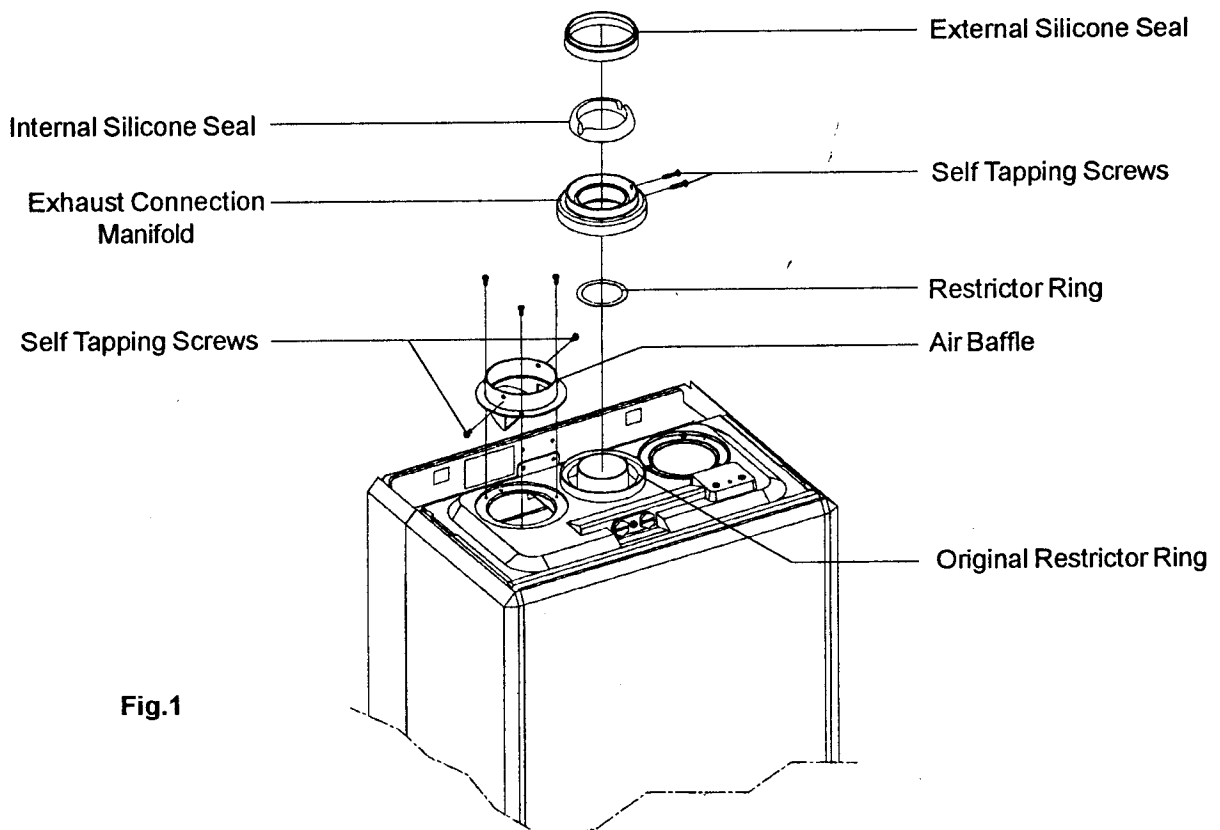

Fig.1
Kit contains: (fig. 1)
- 1.2 Insert the new restrictor ring into the exhaust connection manifold. (Only if the combined flue lengths is less than 8m, fig. 1).
- 6.1** Where the text bears identifying numbers in brackets, refer to figs. 1 and 2 unless otherwise instructed. Close control panel, open controls cover.
- 6.3.2.1** Close the appliance central heating valves and disconnect from the appliance (23 & 24, Fig. 1).